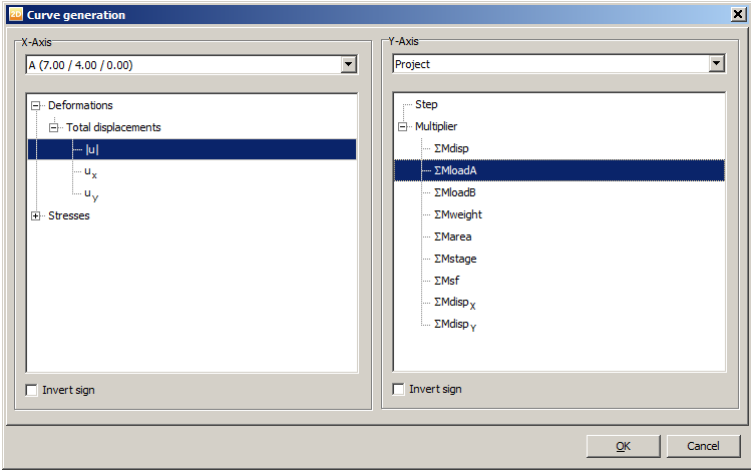

Figure 19: Curves generation window
- Figure 19 shows the *Curve generation* window after applying the steps mentioned.